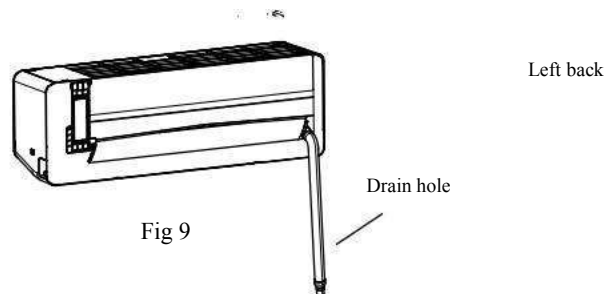

Fig 9
- ### 2. Connecting left back tube (similar to left lower tube). (optional, Refer to Fig9)
Right chart is available for the position of drain hose,refer to Fig 9.